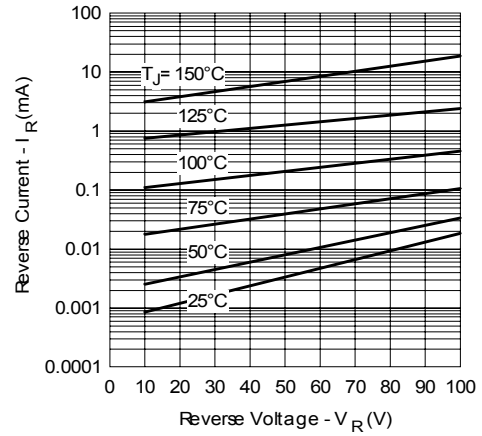

Fig. 2 - Typical Values Of Reverse Current Vs. Reverse Voltage (Per Leg)
| I_{RM} Max. Reverse Leakage Current (Per Leg) * See Fig. 2 (1) | 1 | mA | $T_J = 25^\circ\text{C}$ |